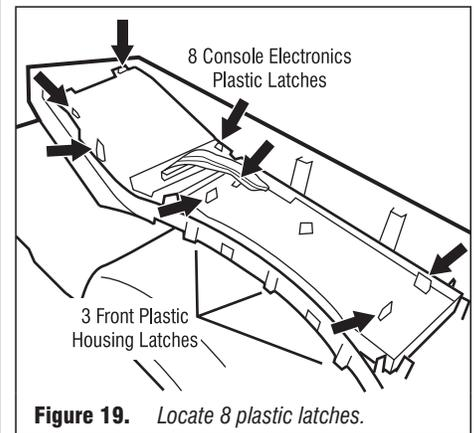

Figure 19. Locate 8 plastic latches.
5. The console electronics is split into two assemblies connected by two cables. Each assembly is fastened to the decorative piece by four plastic latches. To remove these assemblies, gently compress the plastic latches while pulling up on the assembly. See figure 19.